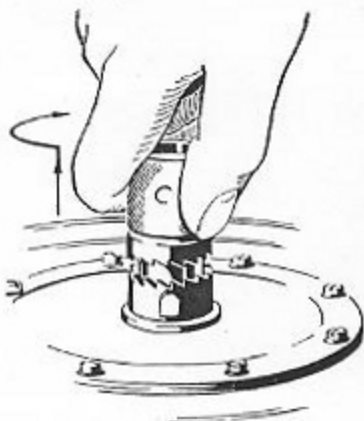
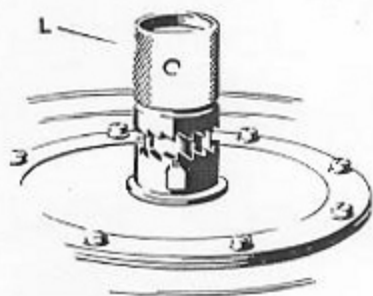

Figure 50
Figure 51
2. Pull out the coupling sleeve (L), Figure 50, as far as possible, and while holding it out, turn it to a point where, when released, it is on the lugs of the main shaft and will not snap down and engage the ratchet teeth again, Figure 51. Turning the coupling sleeve about an eighth turn, should hold it disengaged.
5. Remove loading lever from coupling sleeve, leaving the coupling sleeve (L) in its pulled out position, as in Figure 51.